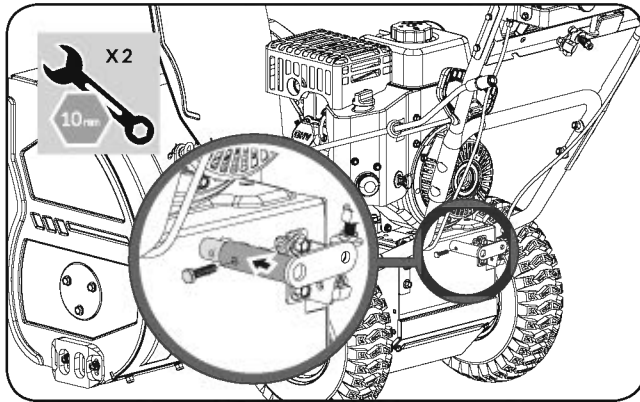

Figure 6a
1. Slide the shift arm sleeve over the rod on the shift yoke. Make sure the linkage plate points to the right. Line up the holes in the shift arm sleeve and shift yoke. Insert a bolt M6x30 and secure with nut. (See **Figure 6a**)